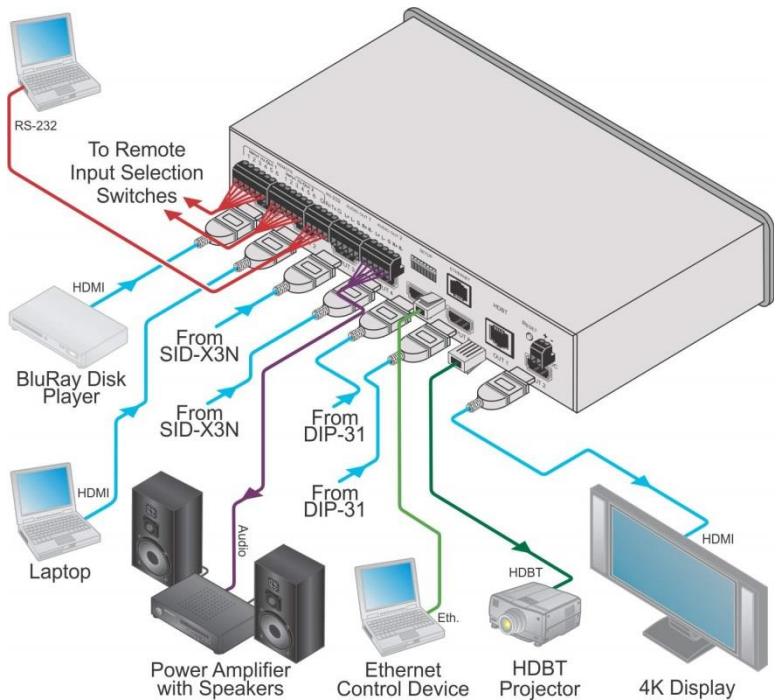

Figure 3: Connecting the VS-62DT 6x2 UHD Matrix Switcher
To connect the **VS-62DT**, as illustrated in Figure 3, do the following:
7. Connect the 48V DC power supply to the device and plug it into the mains electricity (not shown in Figure 3).